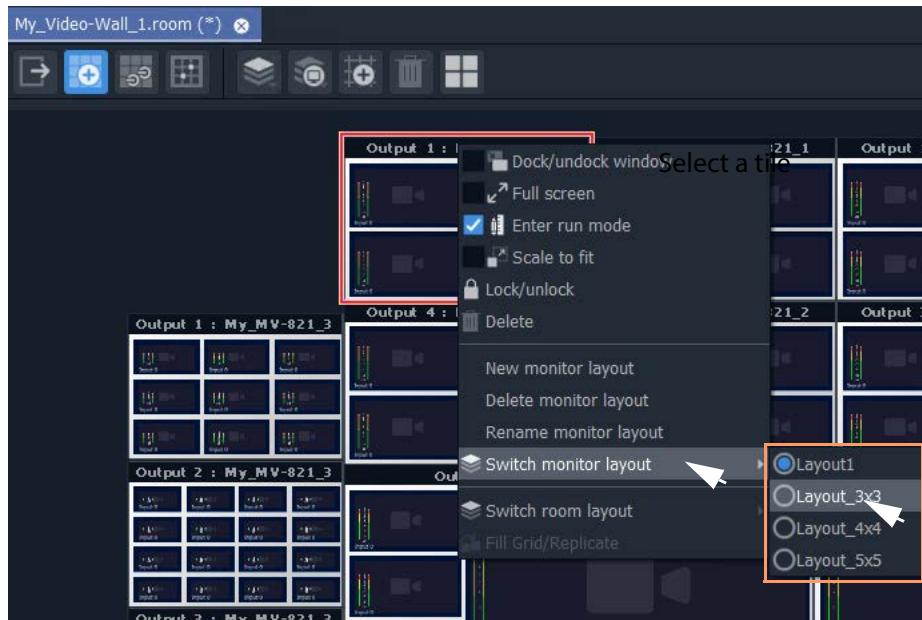

Fig. 15-45: Select a Monitor Layout
- 6 Select 'Switch Monitor Layout' and select a **Monitor Layout** from the list. (See Figure 15-45.)